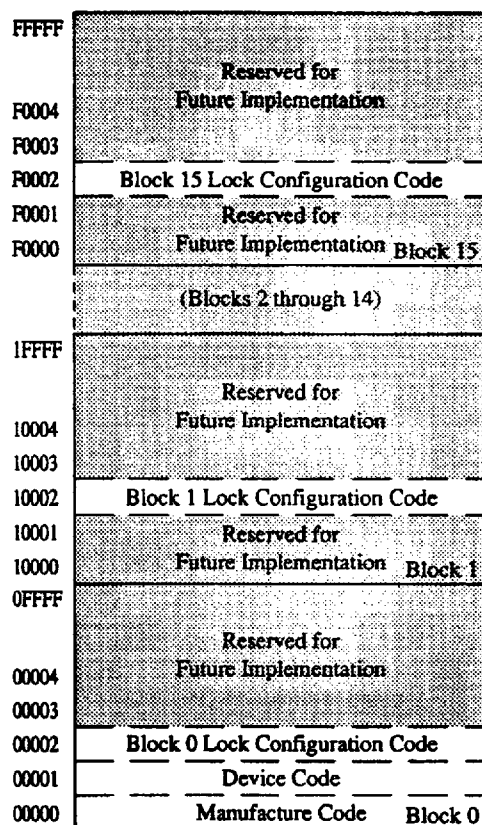

Figure 2. Device Identifier Code Memory Map
The read identifier codes operation outputs the manufacturer code (Block 0), device code (Block 0), and block lock configuration codes (for each block), see Figure 2. Using the manufacturer and device codes, the system CPU can automatically match the device with its proper algorithms. The block lock codes identify locked and unlocked blocks.
IA = Identifier Code Address: see Figure 2.
The host initiates the identifier code operation by writing the Read Identifier Codes command. Following the command write, read cycles from addresses shown in Figure 2 retrieve the manufacturer, device and block lock configuration codes (see Table 3 for identifier code data). To terminate the operation, write another valid command. Although Table 3 lists the device code as A6A6, this family of Sharp's ID340 Series Flash Memory Miniature Card could also have device codes A7A7 or AAAA. Host software should check for all three cases for compatibility with future cards.
1. × selects the specific block lock configuration code to be read. See Figure 2 for the device identifier code memory map.